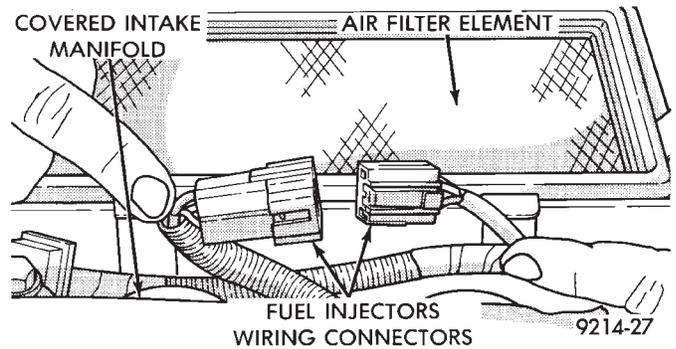

Fig. 11 Fuel Injector Wiring Harness
(16) Disconnect Fuel Injector wiring harness from engine wiring harness (Fig. 11).
- (8) Install fuel supply and return tube hold-down bolt and the vacuum crossover tube hold-down bolt and torque to 10 N•m (95 in. lbs.).
- (9) Connect fuel injector wiring harness to engine wiring harness (Fig. 11).